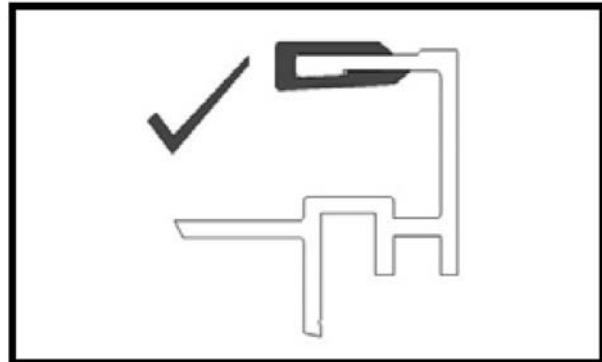

**Figure 169**
1. Start the wear strips (**Figure 169, item 1**) at an idler end (**Figure 169, item 2**) of conveyor. Separate the top and bottom flange of the wear strip at the end of rail and press into place.